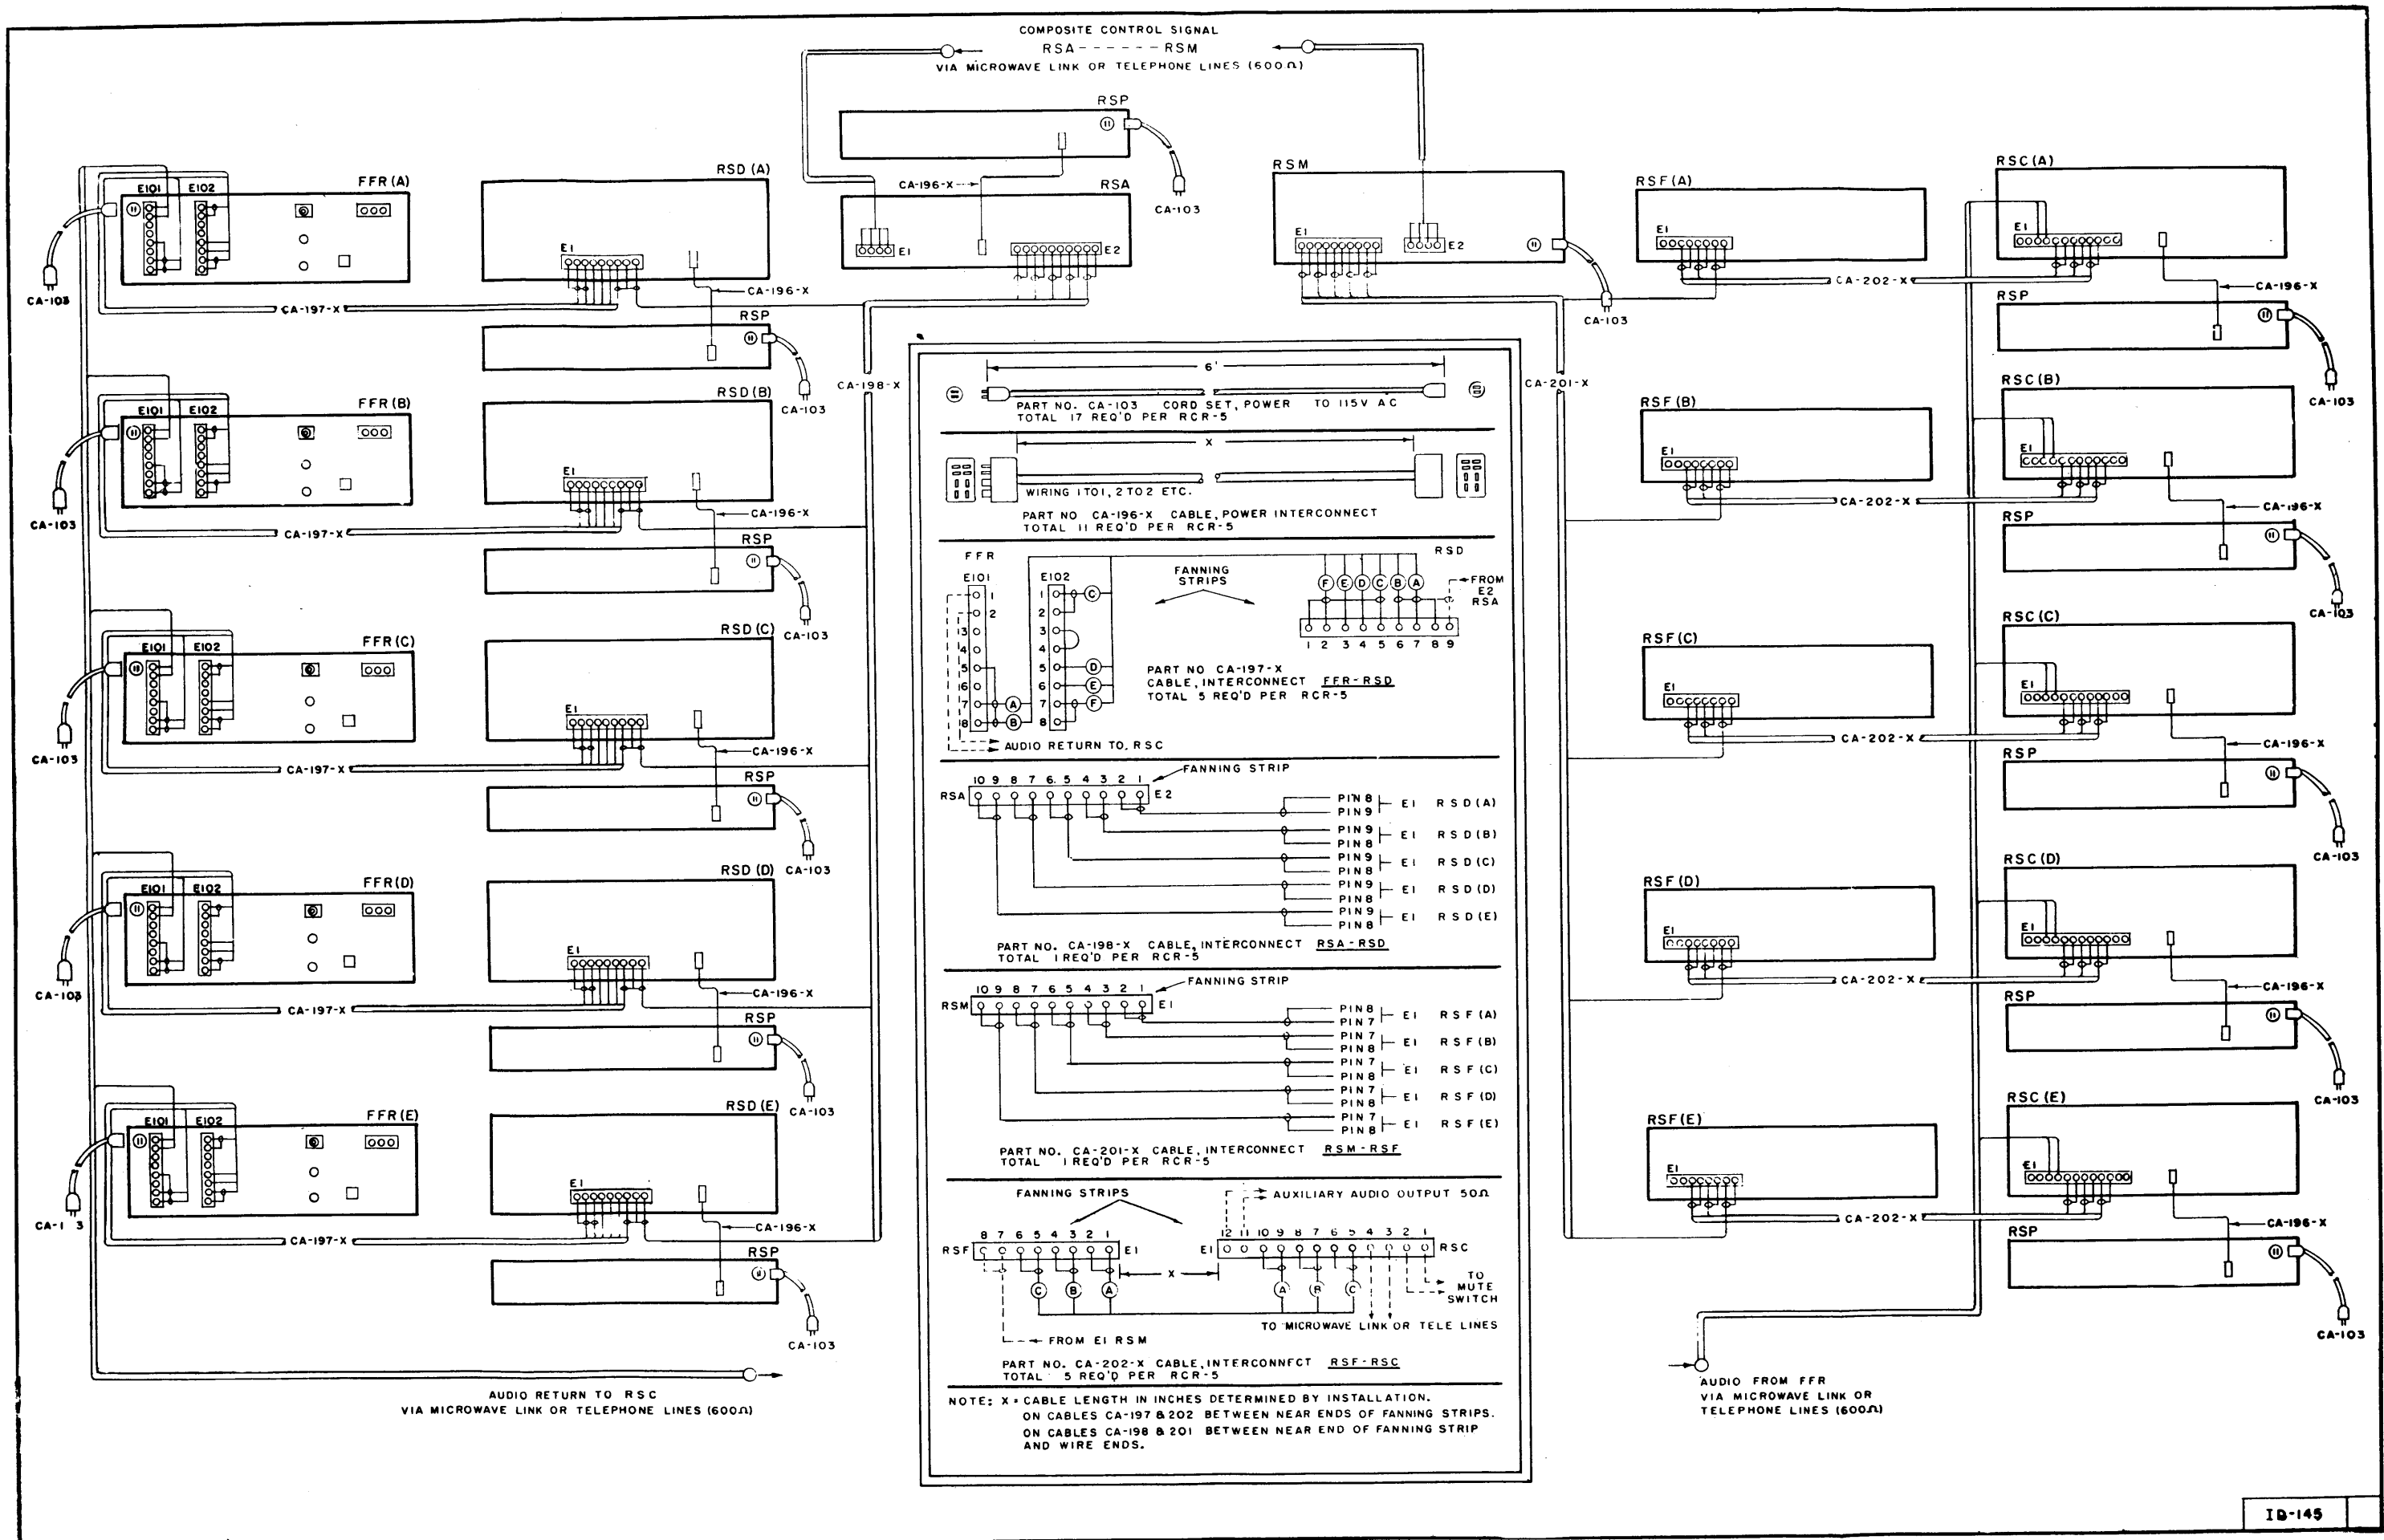

Figure 3-1. System Cabling Diagram, Model RCR-5
E. In many instances TMC has been supplied with installation drawings and has, therefore, provided cables with the equipment, in which event installation can be accomplished within a few hours. For those instances where this is not feasible, the equipment is supplied with fanning strips attached to each and every terminal board to enable the installation group to properly terminate the interconnecting cables. A drawing, Figure 3-1 of this manual will give installation data for the cables.
F. When equipment layout for installation is known, cable lengths can be determined and if so requested can be supplied with the equipment by TMC. Reference to Figure 3-1 will show a five channel system (15 controls) and includes cable part numbers which are completed by adding length of cable between terminations.